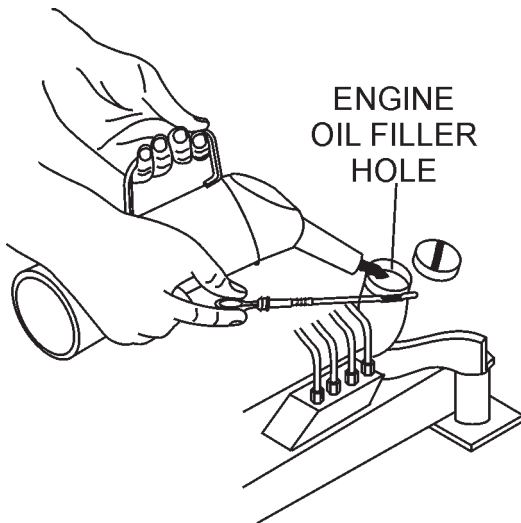

Figure 9. Engine Oil Filler Hole
4. If engine oil is low, fill engine crankcase with lubricating oil through filler hole (Figure 9), but **DO NOT** overfill.